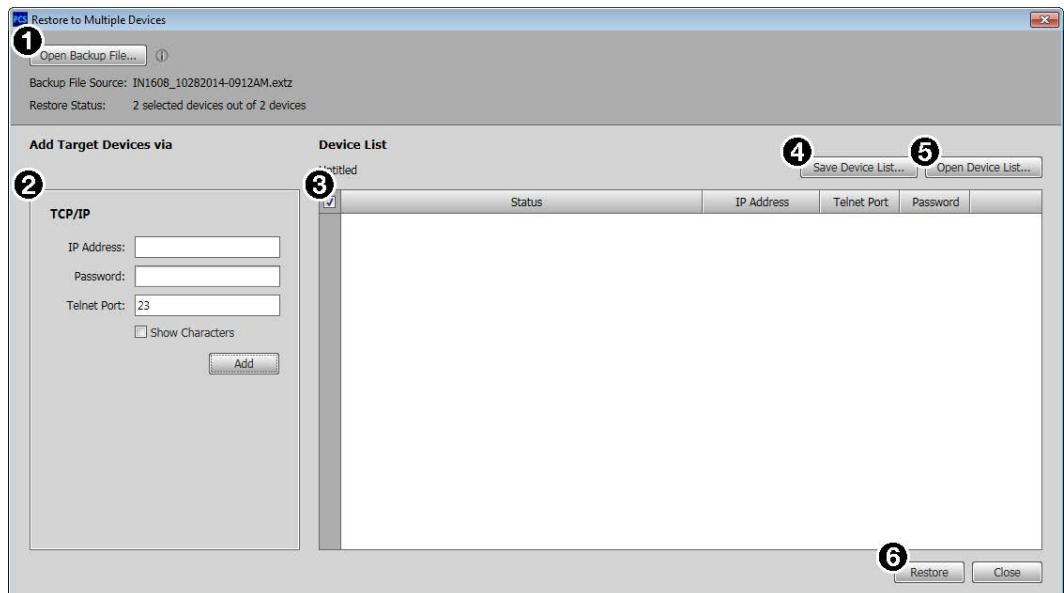

Figure 53. Restore Multiple Devices Dialog Box
From the **Device** drop-down menu, select **Restore... > Restore to Multiple Devices....** The **Restore to Multiple Devices** dialog box opens (see figure 53).
- In the TCP/IP panel (see **figure 53**, ② on the previous page), enter the necessary information for the target device in the **IP Address**, **Password**, and **Telnet** fields and click the **Add** button.
- Click the **Open Device List...** button (⑤) to open the **Open Device List** window and navigate to the location of a saved device list file. Select the desired file and click the **Open** button to load the list of devices.
6. Click the **Restore** button (⑥) to load the file to the selected devices.